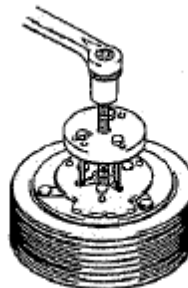

Figure 12-03
- (4) Remove armature assembly using puller. Thread 3 puller bolts into the threaded holes in the armature assembly. Turn center screw clockwise until armature assembly comes loose. (Ref. Figure 12-03)